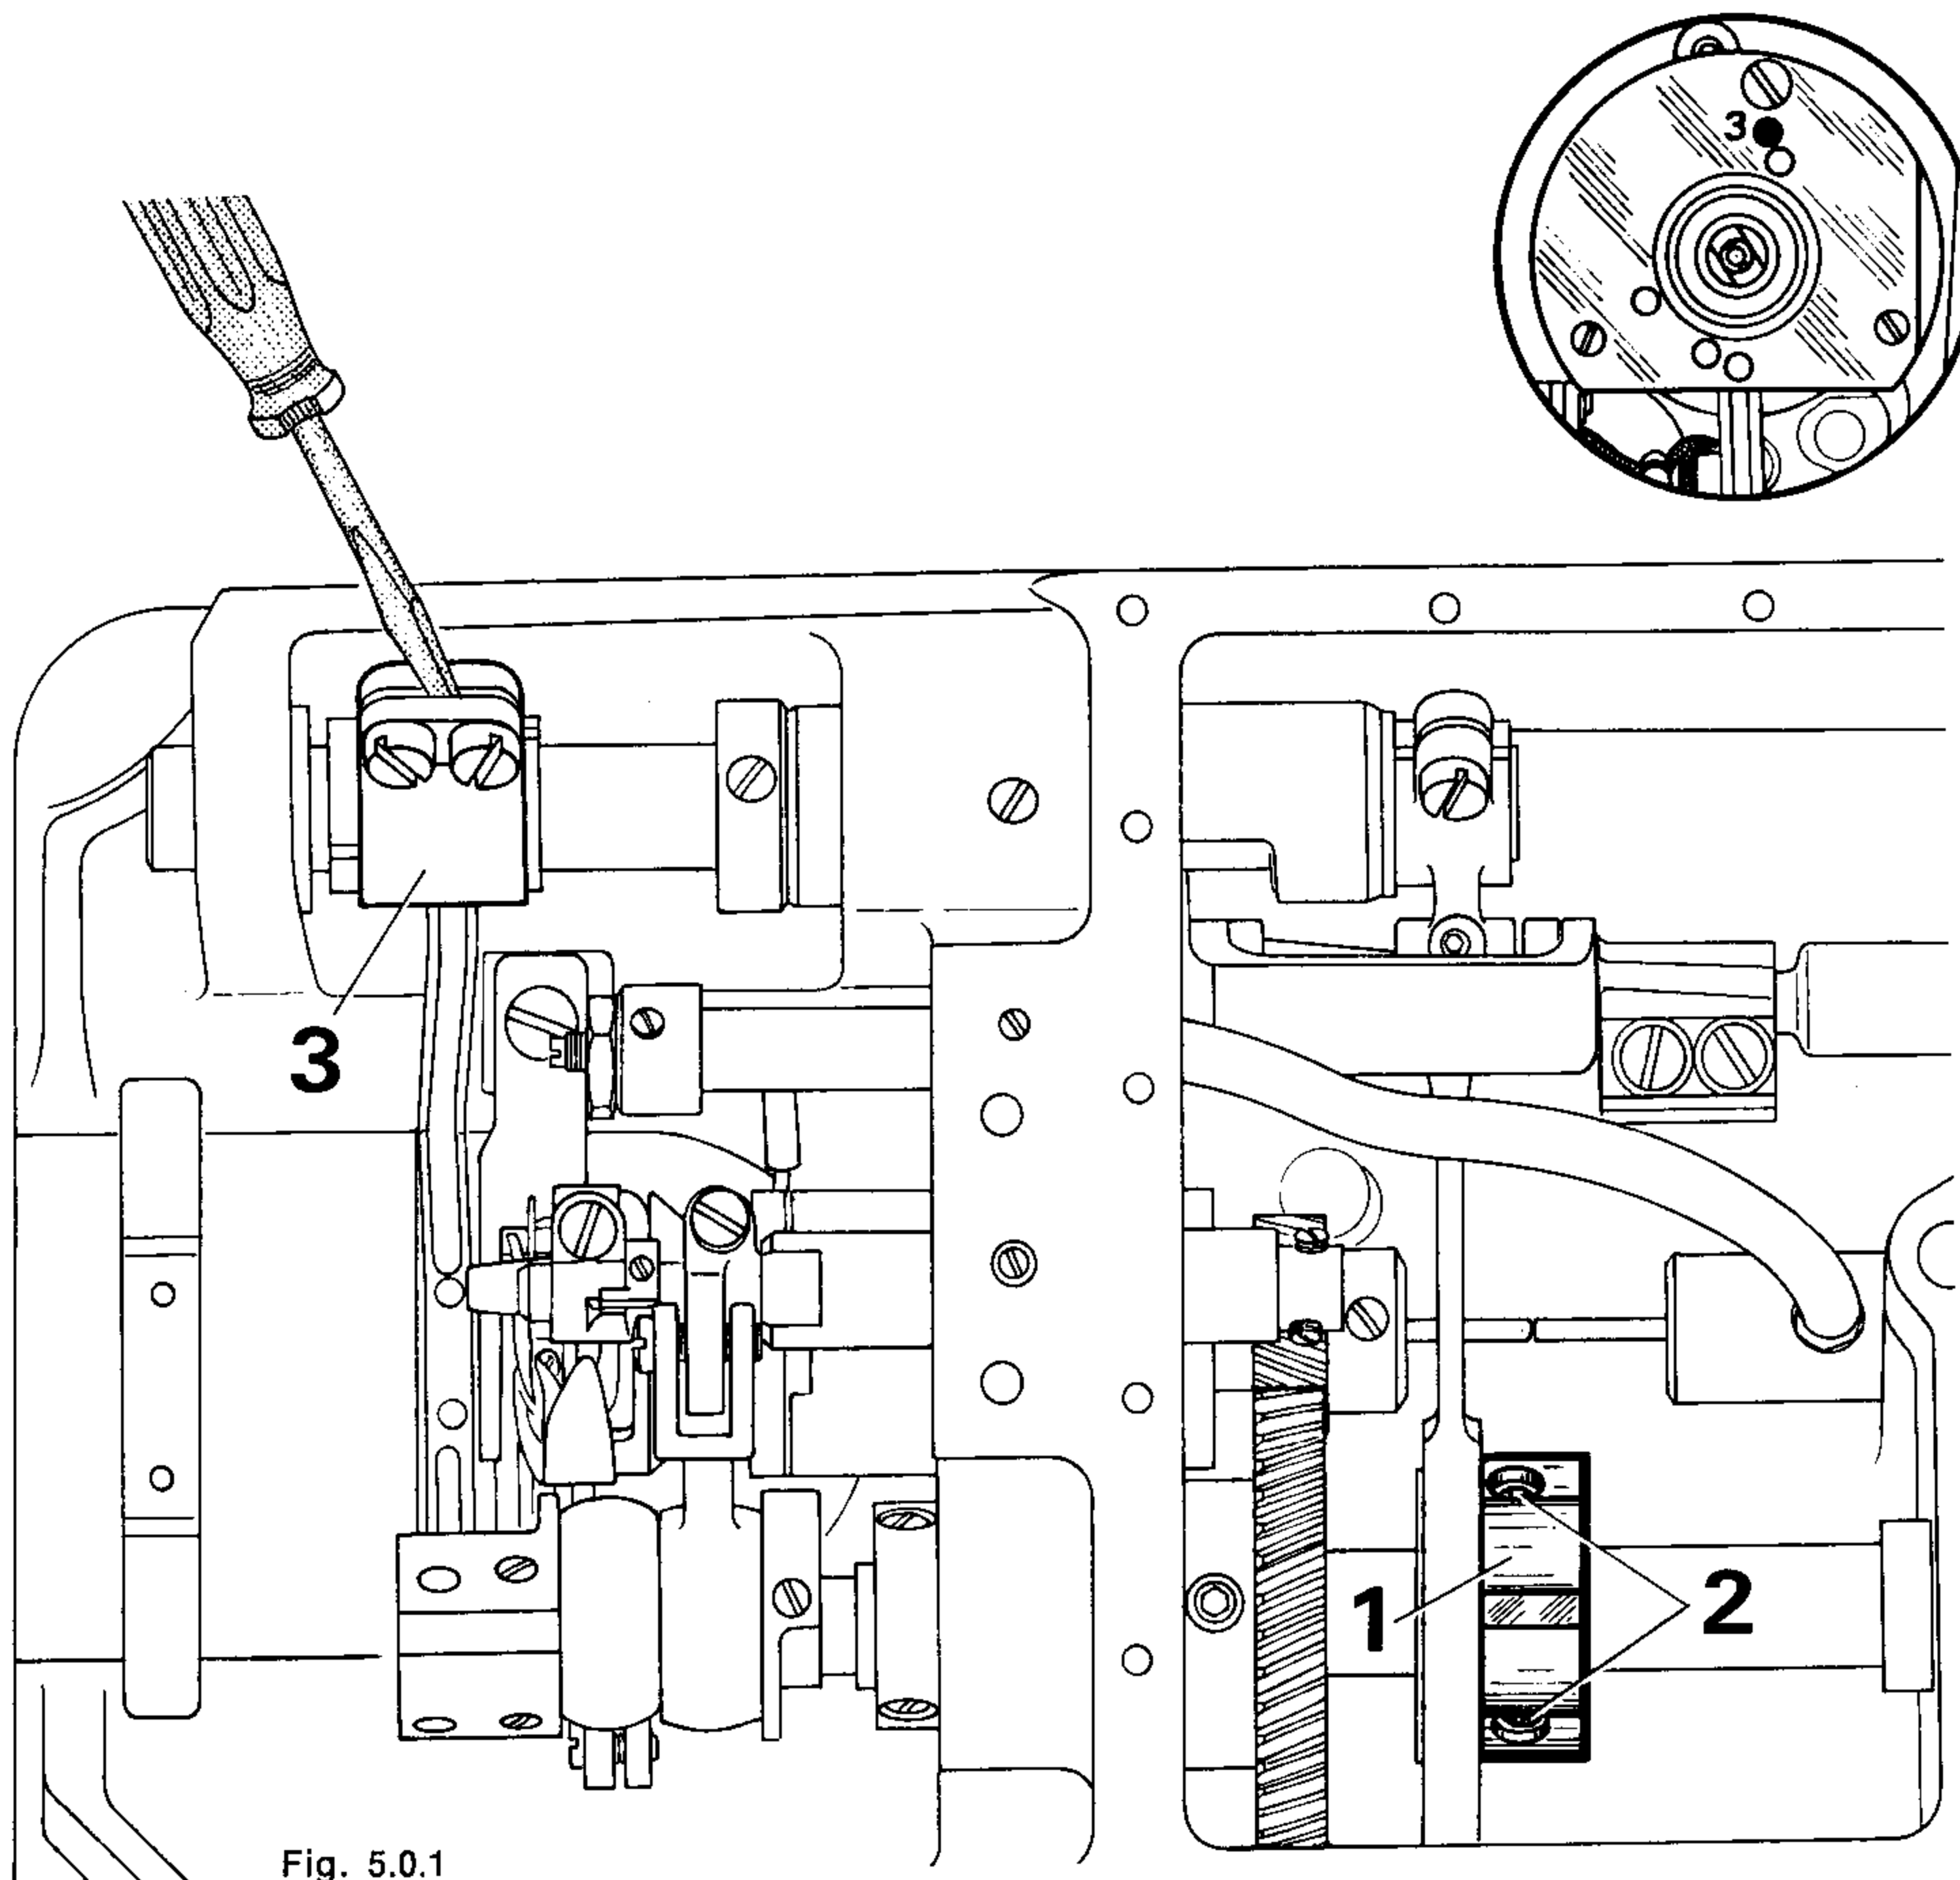

Fig. 5.0.1
- 5.4. To facilitate adjustment, push the screwdriver into the slot of feed rock shaft crank 3 (Fig. 5.0.1.).
- 5.5. **Move the reverse-feed control up and down and simultaneously turn the feed driving eccentric until its notch is visible and the feed dog (or rather the screwdriver in feed rock shaft crank 3) is completely motionless (Fig. 5.0.1.).**